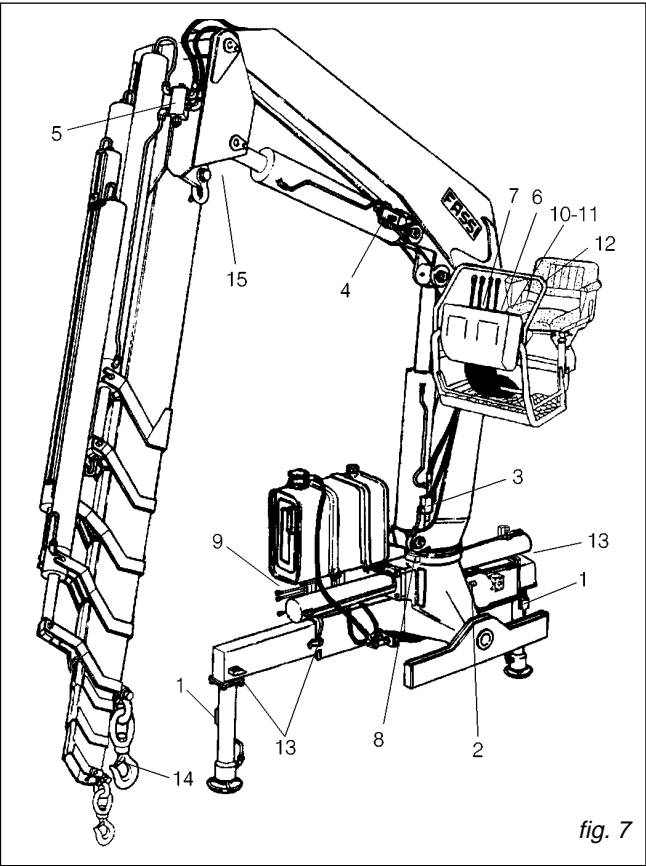

fig. 7
10.2 Crane with top seat controls and with ground controls for outriggers. (fig. 7)